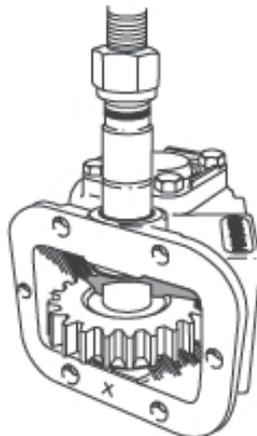

Figure 2 Removing the Idler Shaft
- e. Remove the circlip (furthest from the end of the idler shaft from which the welsh plug was removed) and slide it along the shaft. Install the PTO housing in a press and remove the idler shaft using the press and a suitable adaptor (Figure 2).